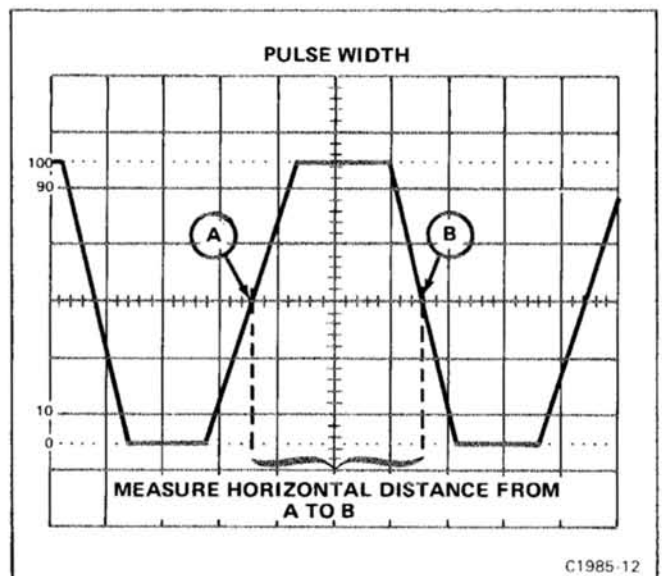

Figure 1-9. Measuring the pulse width of a displayed waveform.
6. Set the TIME/DIV switch and POSITION control for 1 complete pulse displayed within the center 8 graticule divisions as shown in Figure 1-9.
7. Measure the horizontal distance in divisions between the 50% amplitude points of the displayed pulse (see Fig. 1-9).
Example: Assume that the horizontal distance between the 50% amplitude points is 3 divisions, and the TIME/DIV switch setting is 0.1 ms (see Fig. 1-9).